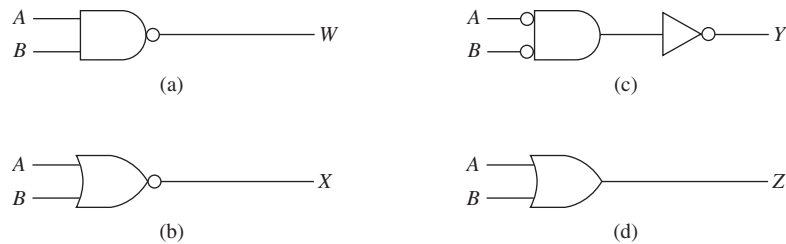

Figure P15
15. Which two circuits in Figure P15 produce equivalent output equations?